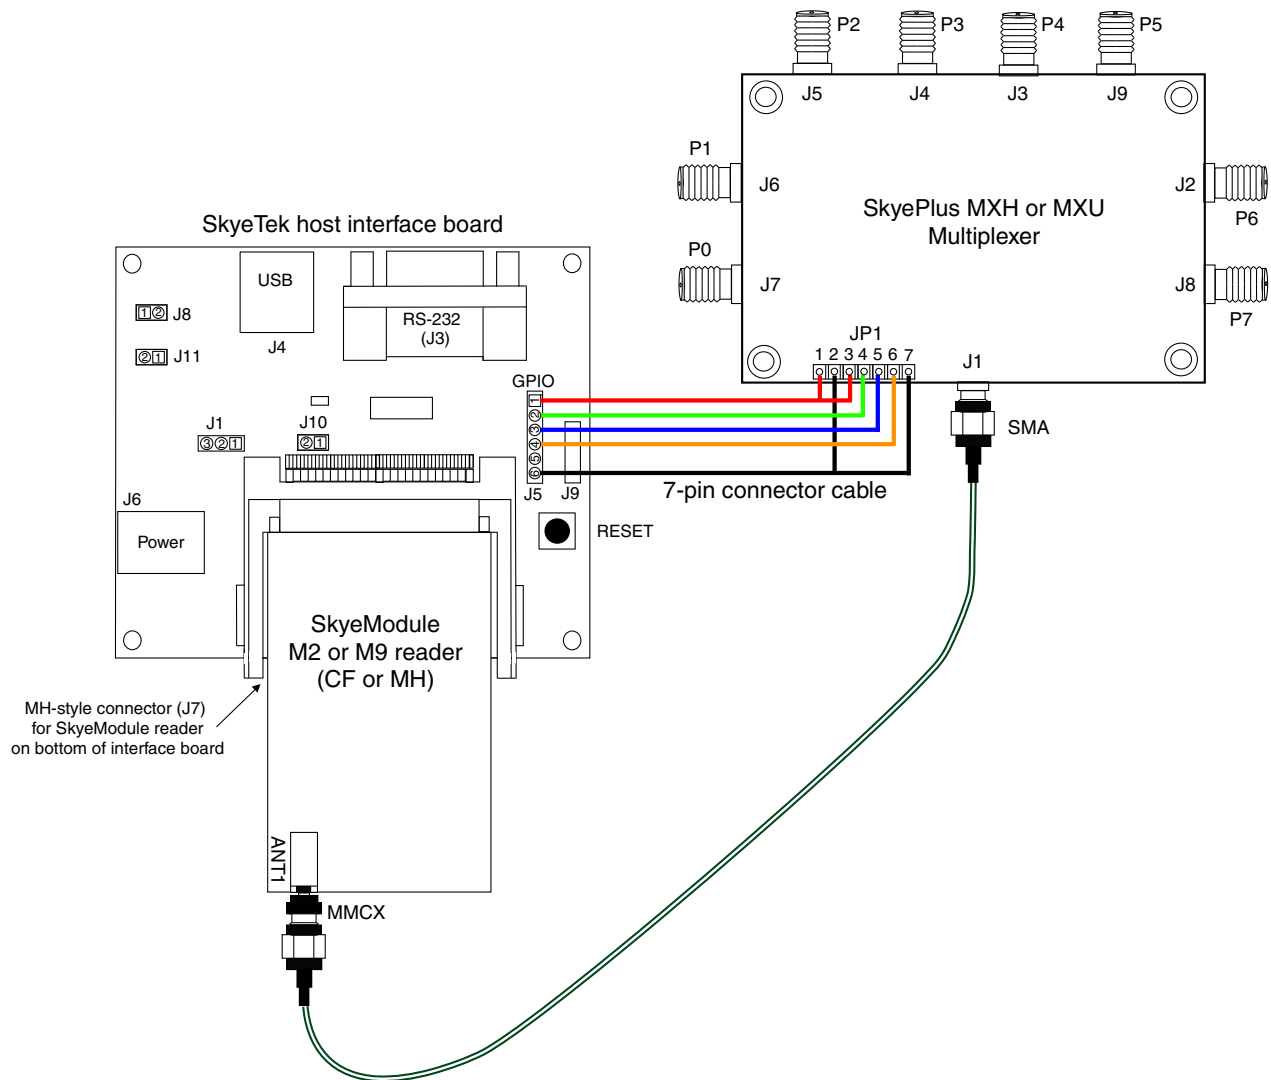

Figure 3-1 Physical Pin and Antenna Connections HIB to SkyePlus Multiplexer
- Figure 3-1 on page 22 shows the physical connections for the multiplexer I/O and antenna cables host interface board.